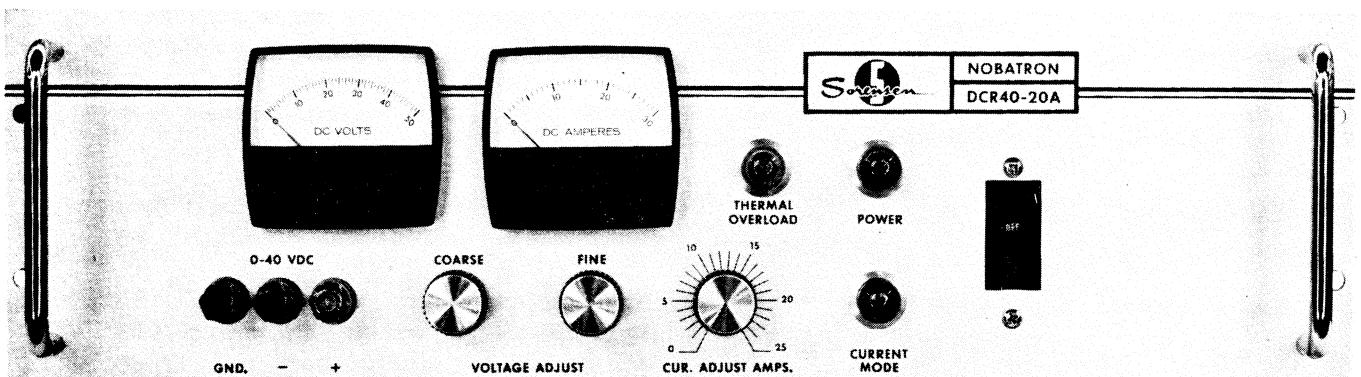

Figure 3-1. Controls and Indicators
3-2. This section, in addition to providing basic operating instructions, details the methods by which units in the 800-Watt-Series may be adapted to their more common applications, including remote sensing, remote programming, and series and parallel operation. Table 3-1 lists each operating control and indicator and its function, and Figure 3-1 shows the controls and instruments. Refer to para 3-3 before operating unit.
- a. Rotate the FINE and COARSE VOLTAGE ADJUST controls (see Figure 3-1) fully counterclockwise, and the CUR. ADJUST AMPS. control almost to zero.